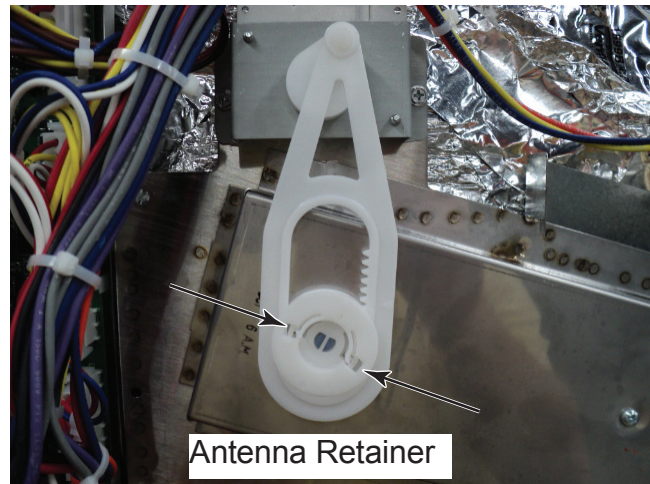

Figure 8
9. Remove antenna gear by squeezing two tabs on antenna retainer and remove retainer (Figure 8).